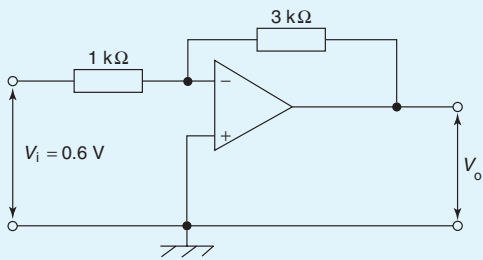

Figure 19.26
- The output voltage,  $V_o$ , in the amplifier shown in Fig. 19.26 is:
- The  $3 \text{ k}\Omega$  resistor in Fig. 19.26 is replaced by one of value  $0.1 \text{ M}\Omega$ . If the op amp has an input bias current of 80 nA, the output offset voltage is: